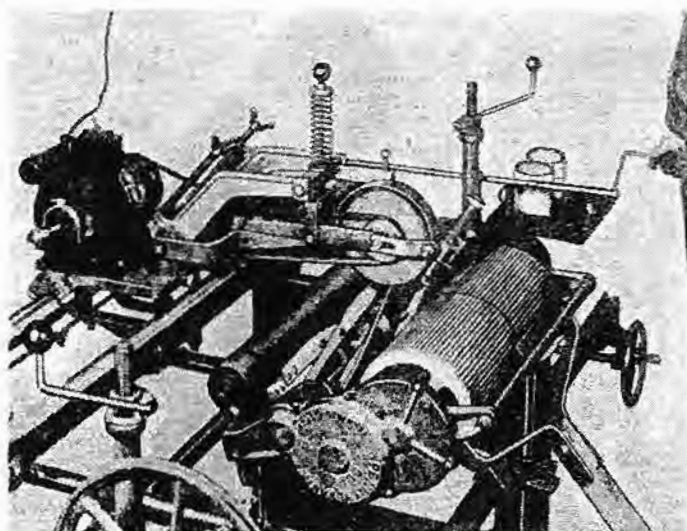

Fig. 18
99. Another method of grinding the reel by the straight line principle would be to place the entire mower in the machine, but without the bed knife assembly being replaced in the mower. (See Fig. 18). Thus, the mower would be in the machine and the reel free to turn in its own bearings. Here, again, the mower is positioned with the adjustments supplied on your Peerless and the reel leveled and set so it will be square with the front main carriage shaft. After you have positioned the mower so it is square, you are again ready to follow the instructions outlined above in straight line grinding for grinding the reel blades.
99. Another method of grinding the reel by straight line principle would be to place the entire mower in the machine, but without the bed knife assembly be replaced in the mower. (See Fig. 18). Thus, the mower